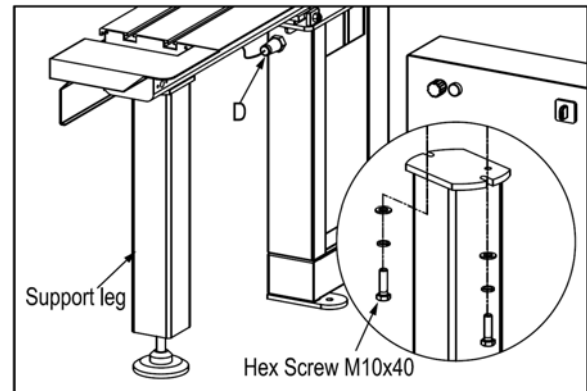

Fig.17
c. Insert the 4pin connector D to the socket of the main base, as **Fig.17**;
d, If your Sliding Table length is 2500mm, we provide two support legs, install the legs as **Fig.17**